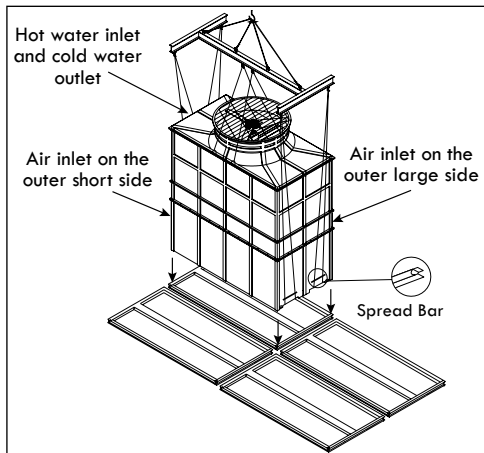

Figure A-103: X-Orientation - First T2 module lifting and installation (RTGM and RTGMTC Models)
- B. Make sure that the water inlet and outlet are facing outward, and the sides without air inlets (louvers) are facing inward. Secure it with the stainless steel nut and bolts sets (supplied by others) as shown on Figure A-103.